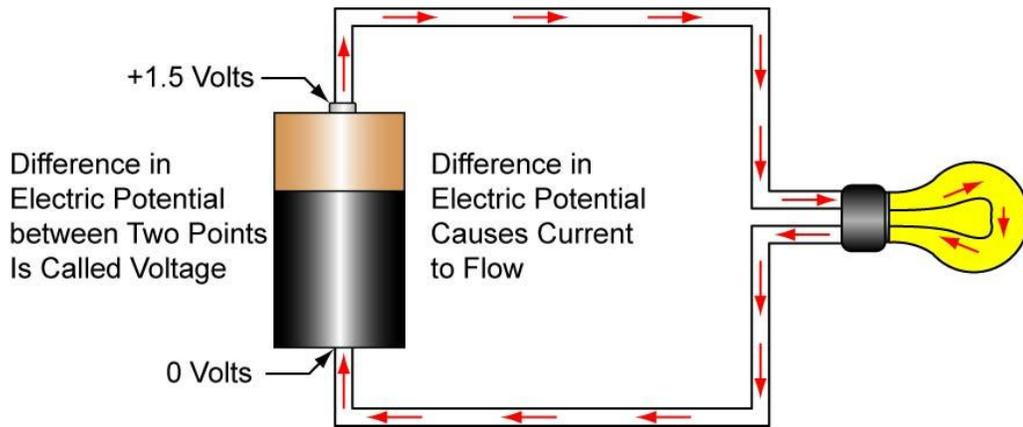

Figure 3: Electric Potential Difference Causes Current to Flow
- **Voltage Source:** The voltage source provides an electric potential difference (voltage) causing current to flow through the circuit (Figure 3). The source can be a battery, electrical outlet, solar panel, generator, or even potatoes.